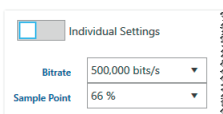

Fig. 3-20: Switch position **Individual settings**
If two or more CAN interfaces or CAN interfaces with more than one channel are available in the **Interfaces** section, it is possible to specify individual settings for each interface/interface channel. To do so, the position of the switch of the relevant CAN interface (Fig. 3-19, ①) has to be changed from **Default settings** to **Individual settings**. Fig. 3-20 shows the switch in position **Individual settings** with the interface- and channel-specific setting options.